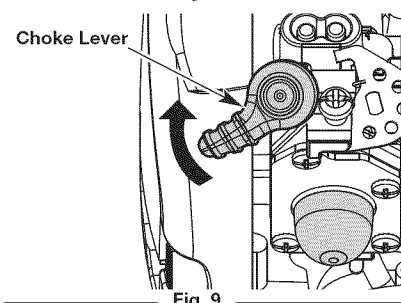

Fig. 9
4. Flip the choke lever clockwise until it clicks (Fig. 9).
5. Crouch in the starting position (Fig. 9). Do not squeeze the throttle. Pull the starter rope with a controlled motion until the unit starts.